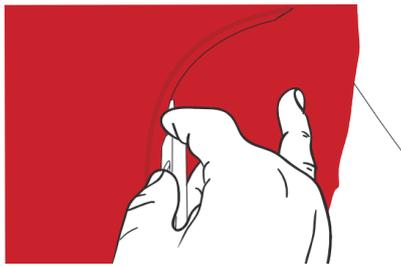

Figure 37
- › For the cut, the cutter blade must be placed against the edge of the adjacent part. When cutting, make sure you always go along the same line. (FIG. 37)